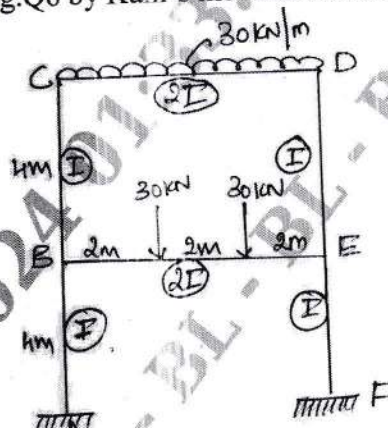

Fig.Q6
- 6 Analyse the frame shown in Fig.Q6 by Kani's method. Draw BMD.